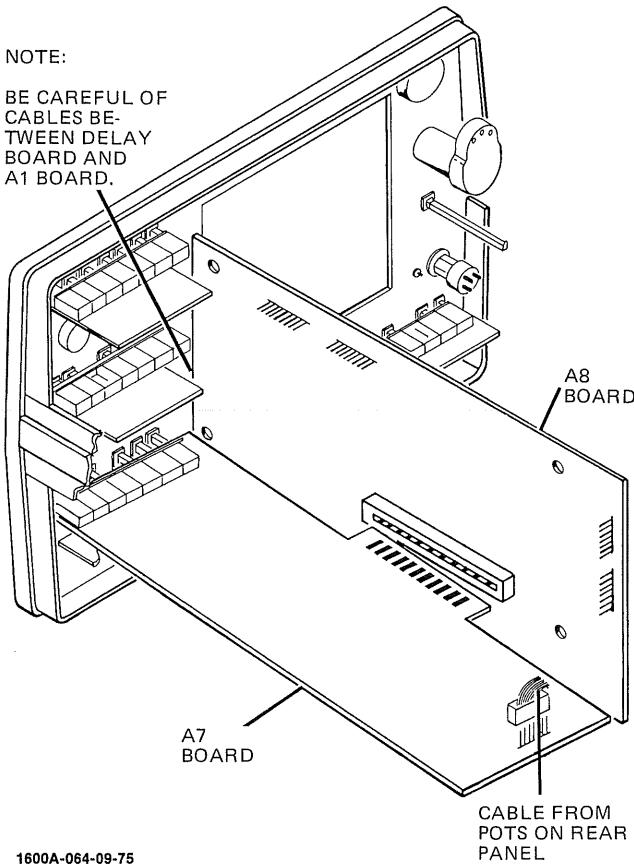

Figure 8-2. Analog Board A7 Removal
**8-9. Analog Board A7 Removal.** (See figure 8-2.)